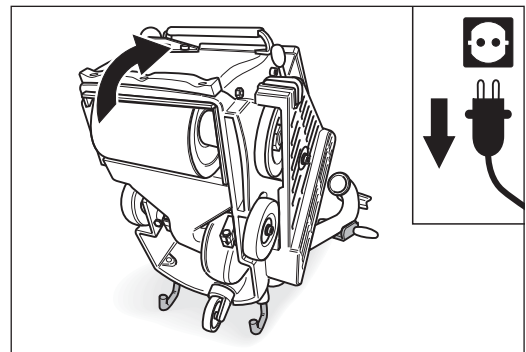

Fig. 73 To check the machine setting, tilt the machine backwards. **Ensure that the machine is standing securely!**
- 2 Tilt the machine backwards over the safety guards so that you can see the wheel bearings (Fig. 73). **Ensure that the machine is standing securely!**
- 5** Tilt the machine backwards over the safety guards (Fig. 73). **Ensure that the machine is standing securely!**